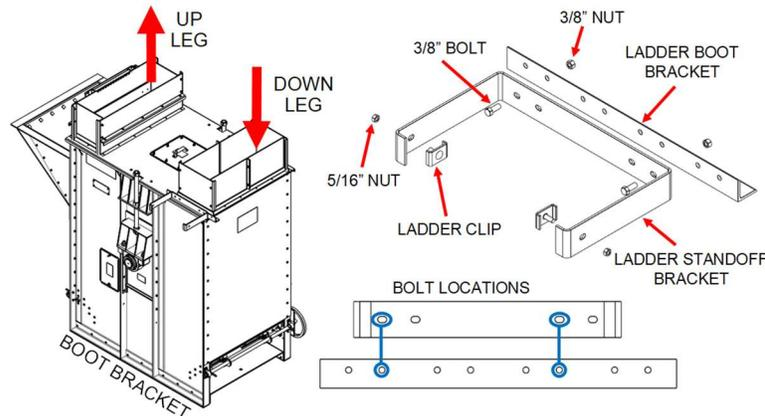

Figure 1
Step 1: Attach the ladder boot bracket to the top of the leg flange as shown in **Figure 1** using existing hardware from the boot to leg connection. Attach standoff bracket using 3/8" hardware in the outer holes/slots.